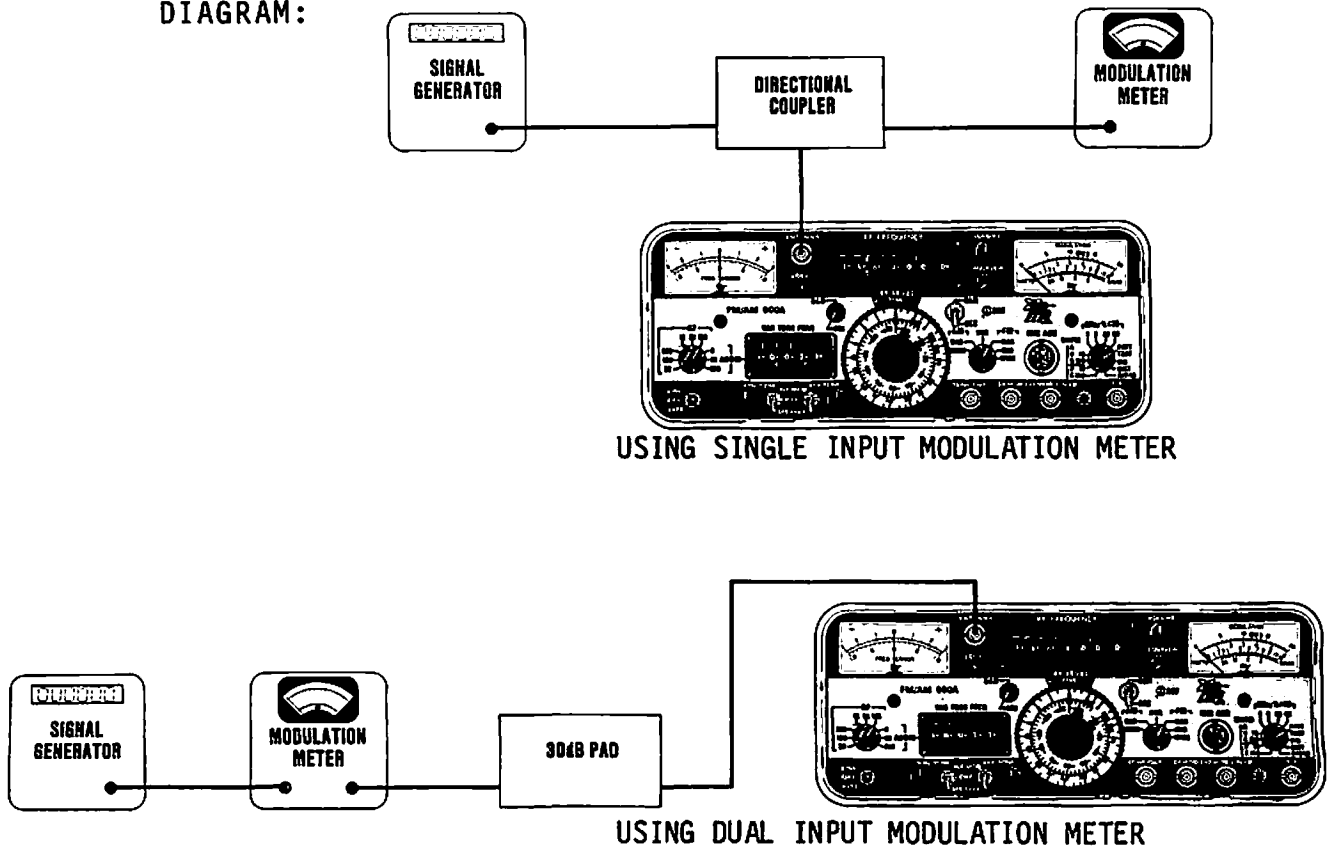

Figure 4-2 Modulation Meter Calibration Set-Up
1. Connect Test Equipment as follows (see Figure 4-2):
- a. For single input Modulation Meter, connect both, Modulation Meter and Signal Generator to Directional Coupler and connect Directional Coupler to ANTENNA Jack (23) on Front Panel.
- b. For dual input Modulation Meter, connect Modulation Meter to Signal Generator and to 30 dB Pad. Connect 30 dB pad to ANTENNA Jack (23) on Front Panel.
2. Set Power Switch (17) in "LINE" position. Allow a 5 minute warm-up period.
3. Adjust R3368 as necessary until MODULATION Meter (1) indicates 0 ( $\pm 0.1$ ).
5. Set GEN/REC Mode Switch (26) in "REC" position.